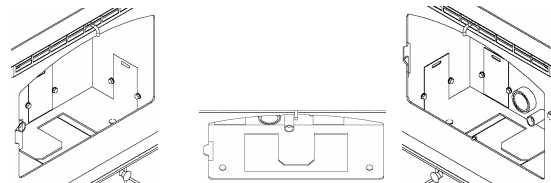

FIGURE 26
- Scrape ash bin through the opening in the bottom of the firebox or vacuum to remove ashes (see Figure 26).
- b. **Interior Chambers** – Four ash doors in the firebox in the P23 can be removed for periodic cleaning (refer to figure 26). These doors allow access to the chamber surrounding the firebox.